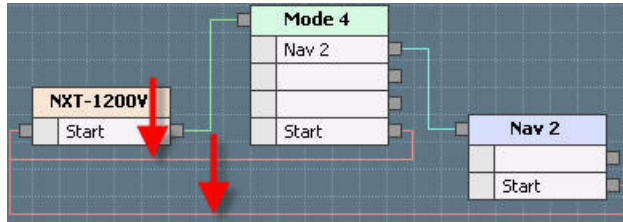

FIG. 148 Creating a Return To Home
You can create this path back to the Start Device page from more than one Mode Selection or Navigation element. Depending on the overall layout of the UI, you might consider creating multiple paths back to the Home Page (FIG. 148):
- Consider using one of the exit nodes on the Mode and Navigation elements to connect back to the Start Device. This will provide the end-user with a button that brings them back to the Start page (see FIG. 148 on page 129).